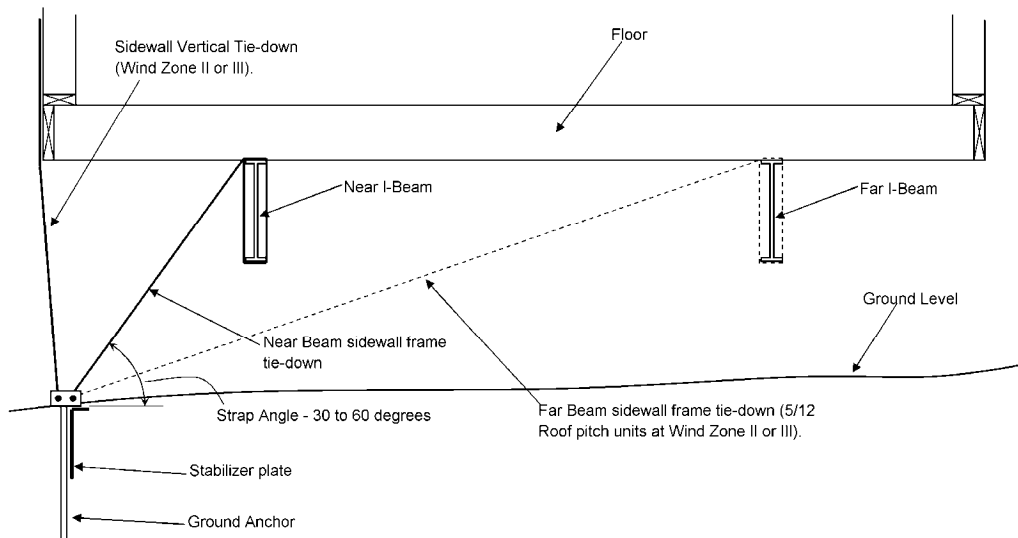

Figure 71. Lateral tie-down configurations
When straps are connected only to the near I-beam, (**Figure 71**) the angle the strap makes with the ground should be between 30 degrees and 60 degrees. Angles greater than 60 degrees may require closer anchor spacing.
- **Near Beam Method.** Connect an anchor strap from the anchor head to the beam closest to the anchor. (**Figure 71**). In addition for Wind Zones II and III, connect a vertical sidewall strap from the sidewall of the home to the anchor head using a double-headed anchor.
- **Far Beam Method.** Connect an anchor strap from the anchor head to the outside beam. (**Figure 71**). In addition for Wind Zones II and III, connect a vertical sidewall strap from the sidewall of the home to the anchor head using a double-headed anchor. The far beam method is only required for double wide units at Wind Zone II or III with a 5/12 roof pitch.